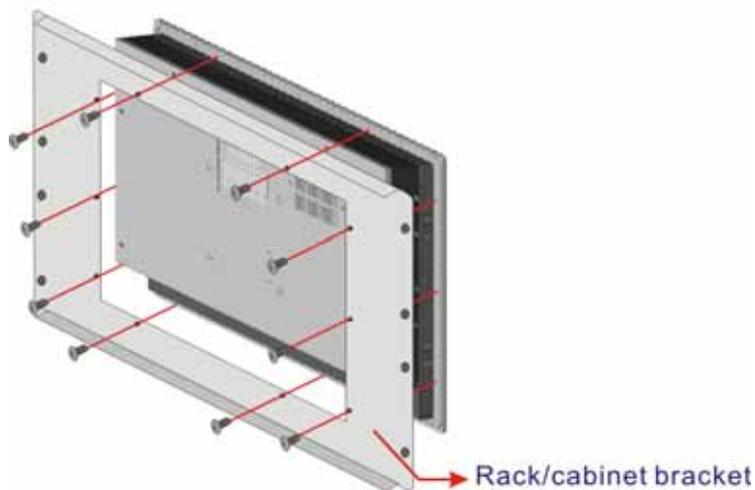

Figure 3-18: Secure the EX-93821/EX-93823 Rack/Cabinet Bracket
- Step 4:** Secure the rack/cabinet bracket to the EX-93821/EX-93823 flat panel PC by inserting the retention screws (**Figure 3-18**).